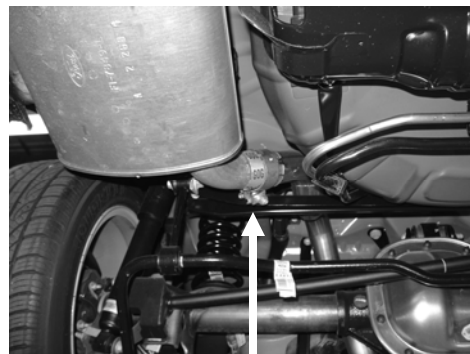

Figure 3
5. Using the 3/8" impact gun with the 15 mm socket, take off the nuts to loosen the exhaust clamps on both mufflers. Be careful, because the mufflers will fall off the car if you don't hold them. Loosen the exhaust connection with one hand and hold the muffler with your other hand (Figures 3 and 4). Keep all hardware for installation of the new exhaust.